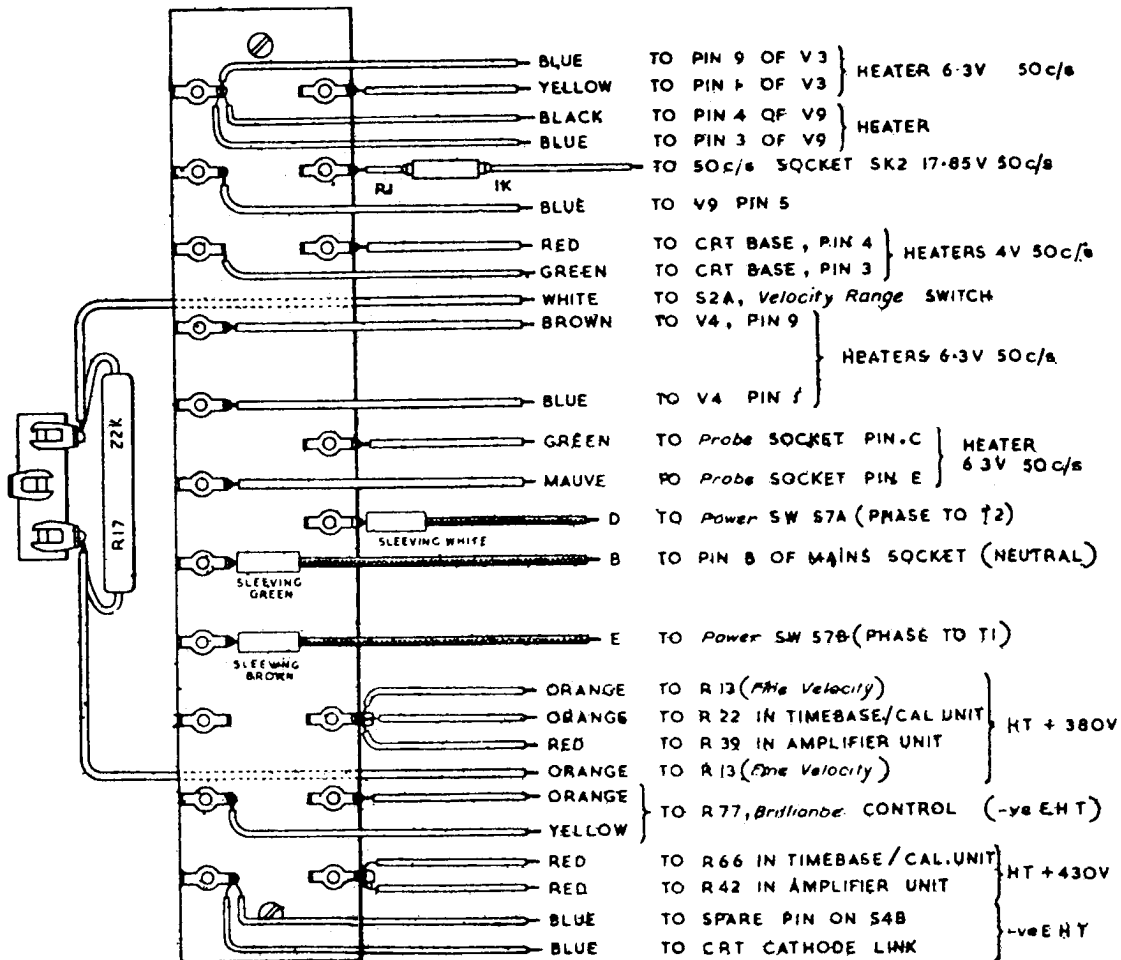

Fig. 3. Power unit connecting panel
- (1) Loosen the two clamps at the front and rear of the power unit which hold the braided mains leads (Uniflexm) to the chassis.
- (2) Unsolder the leads which connect the remainder of the oscilloscope to the power unit. The leads which have to be removed are shown in fig 3. Make a note of how the